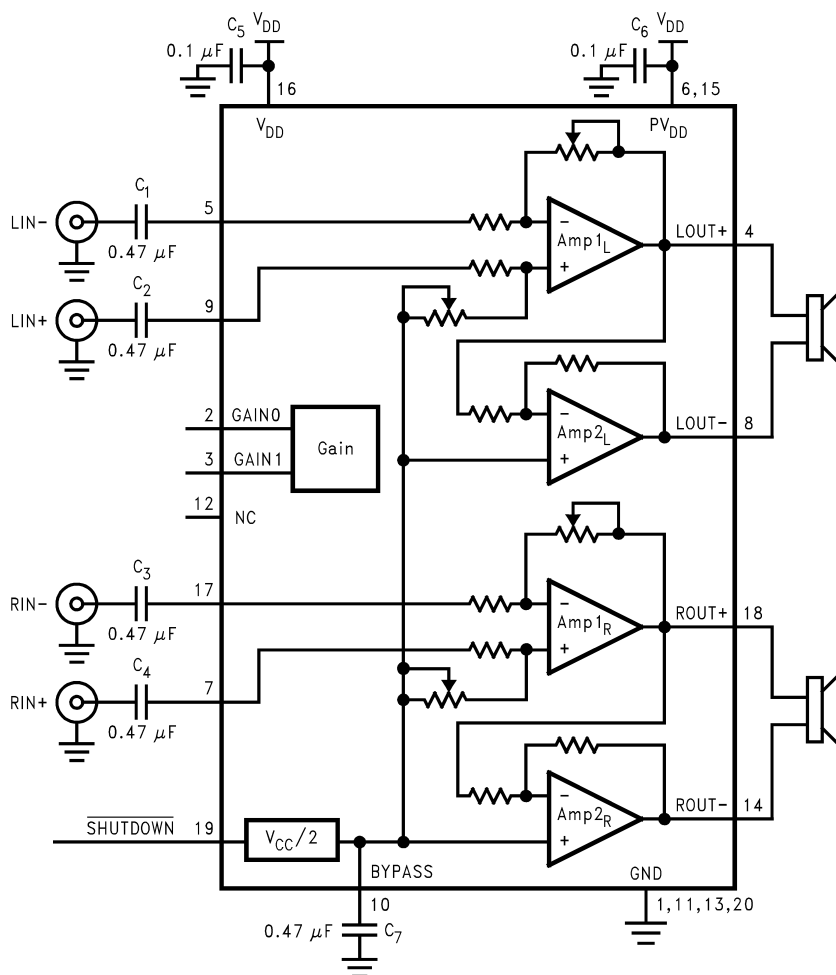

Figure 1. Typical Audio Amplifier Application Circuit
- PSRR (at 1kHz, $V_{DD} = 5V$, Figure 1): 62dB (typ)
The following specifications applies to the LM4869 when used in the circuit shown in Figure 1 and operating with $V_{DD} = 5V$ and $A_V = 6dB$, unless otherwise specified. Limits apply for $T_A = 25^\circ C$.
(Refer to Figure 1.)